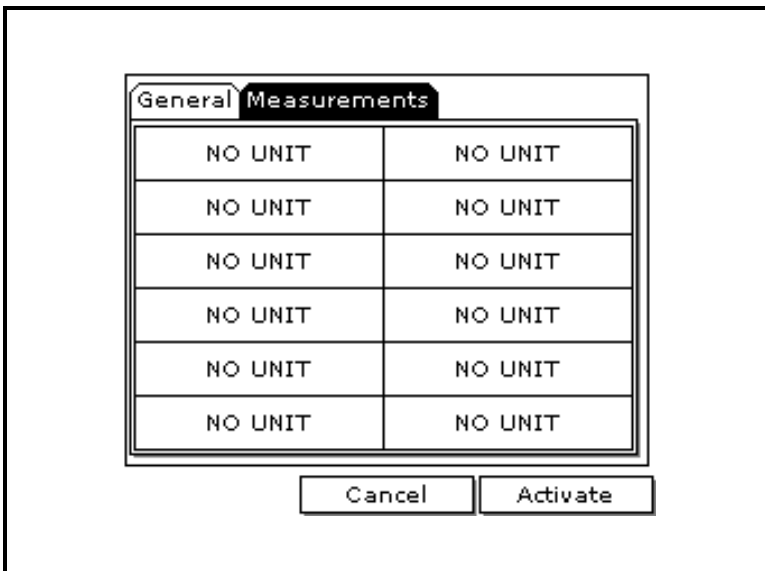

Figure 5-3: The Log Measurements Window
2. Use the arrow keys to move to the **Measurements** tab and press [ENTER]. A screen similar to Figure 5-3 below appears.